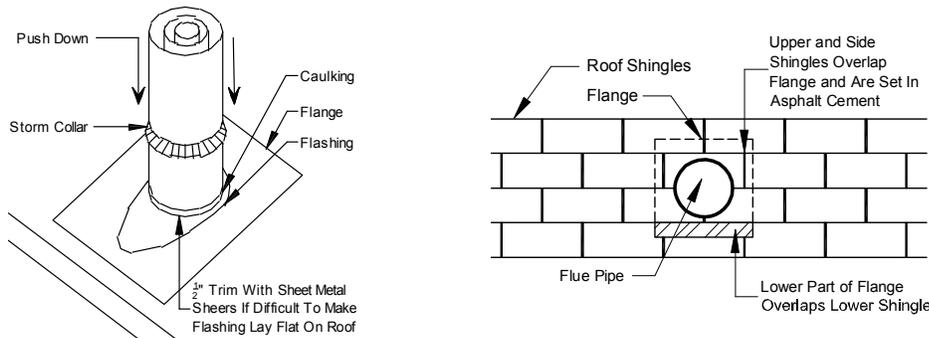

Figure 101. Roof flashing and shingle installation around chimney
5. **Complete shingles.** Cut shingles in successive courses to fit around the pipe and embed them in asphalt cement where they overlap the flashing. Secure shingles with roofing nails through flashing and apply asphalt cement over nail heads. The completed installation should appear as shown in **Figure 101**, with the lower part of the flange overlapping the lower shingles and the side and upper shingles overlapping the flange.